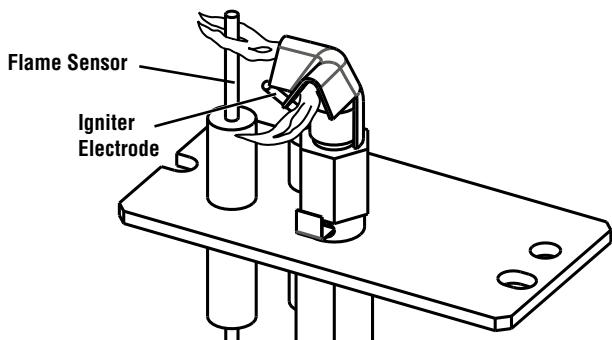

Figure 29
- Inspect the pilot system for proper flame. Turn the pilot ON/Auto switch to the ON position. Ensure the igniter lights the pilot. The pilot flame should engulf the flame sensor as shown in **Figure 29**. See *Intermittent/Standing Pilot Mode* on **Page 20** for instructions on switching from intermittent ignition to a standing pilot.